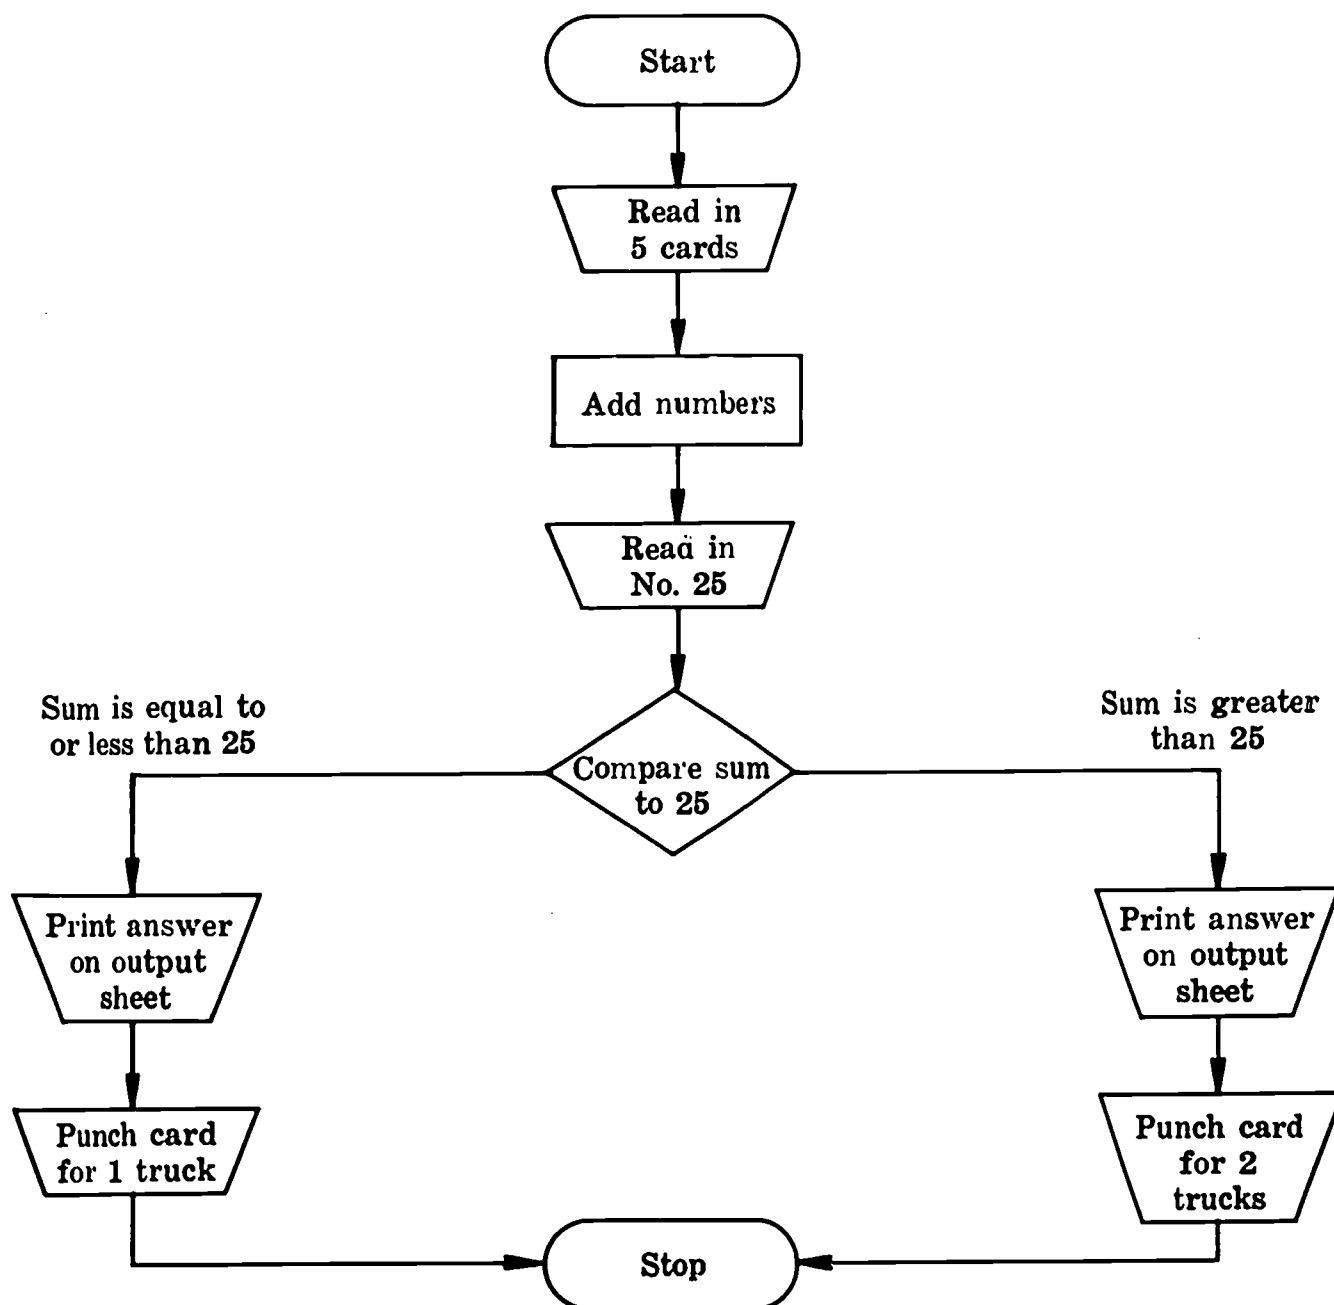

Fig. 58-1. Warehouse Delivery Problem
4. Continue to show the overlay to Transparency 58-4 while you design the flowchart on the chalkboard. Ask for student suggestions at each step. See Teacher's Guide Fig. 58-1.